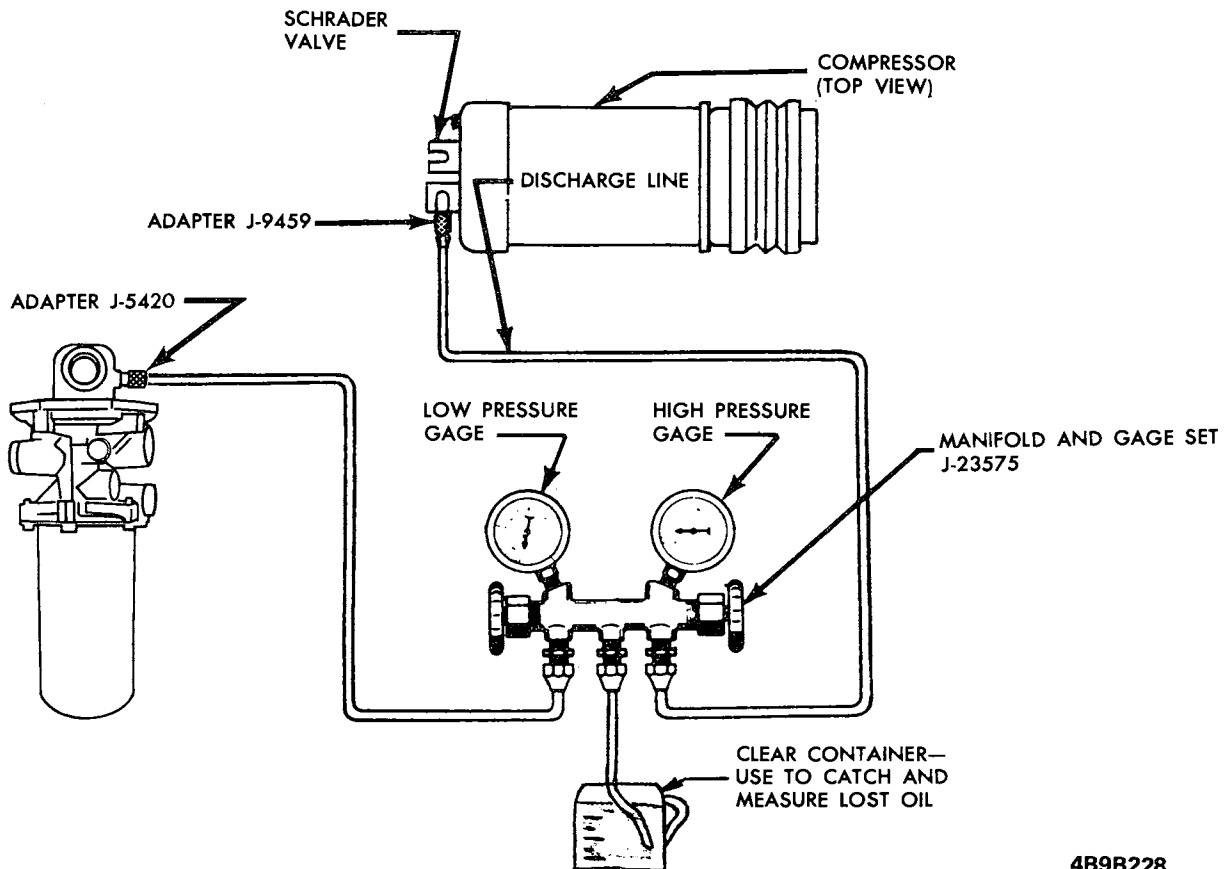

Figure 9B-12 Set Up For Discharging System - All Series
2. Connect the Gauge Set J-23575 with valve adapters J-5420 to the Schrader type valves. See Figure 9B-12.